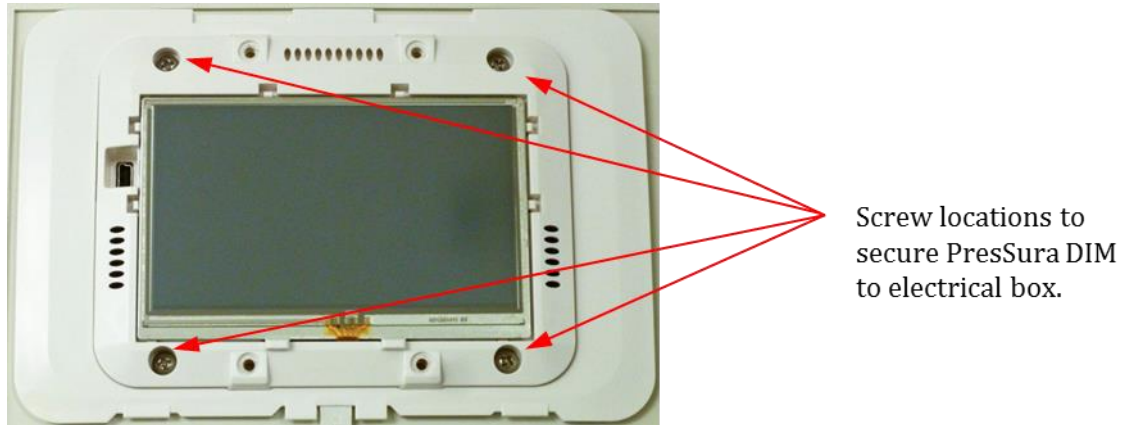

Figure 7: Pressure Controller Mounting
- Screw PresSura™ DIM to electrical box (Figure 7).